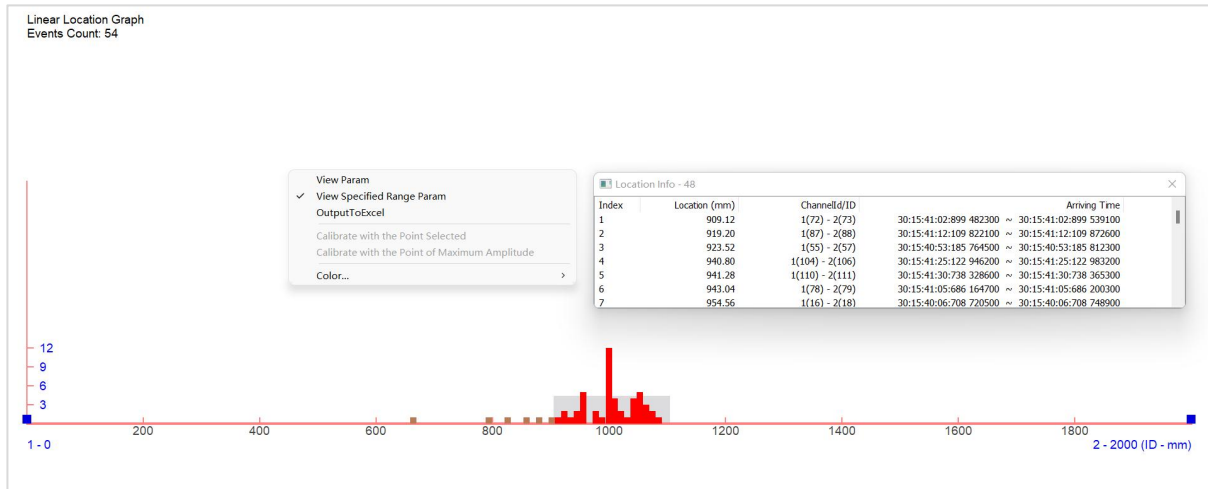

Fig. 6-60 Linear Location Graph View range parameters
**View Specified Range Param:** after enabling, enter the covering range width (mm) from the interested position, by default 200mm. Then click on any valid data points on the location view. Parameter information of the position point and the nearby 200mm area points will be displayed including the location coordinates, channel ID and the arrival time. The points shown in Figure 6-60 are calculated based on the channel parameters in the location